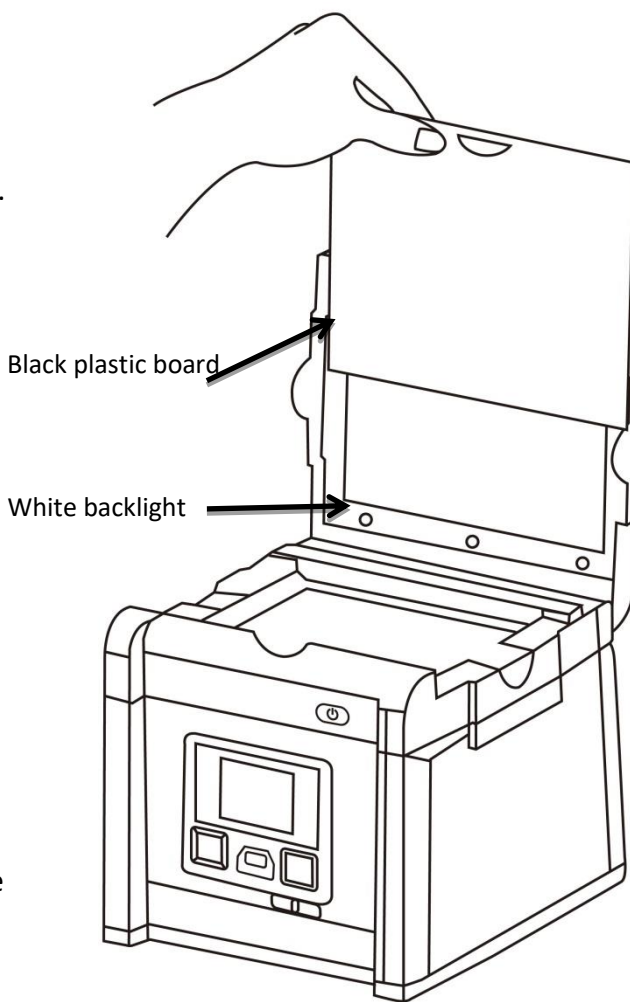

Figure 7
3. Slide the black plastic board into the groove of the white backlight to block the white light on the lid* (**Figure 7**).